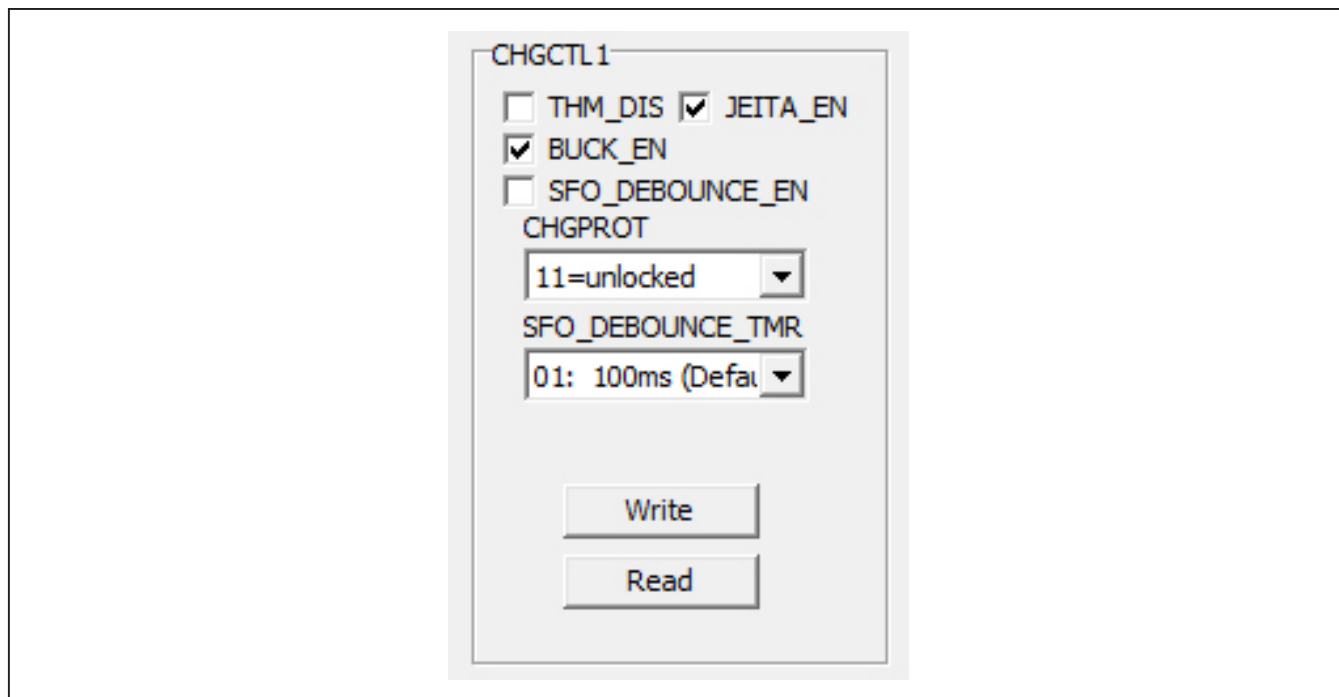

Figure 5. MAX77829 GUI—Charger Configuration 1
- 1) Ensure the EV kit is properly connected and powered. Go to tab CHG_CNFG(1), as shown in Figure 5, and set up the related the settings for the charger settings. A quick setting guide for related registers is provided below; other different settings are available.